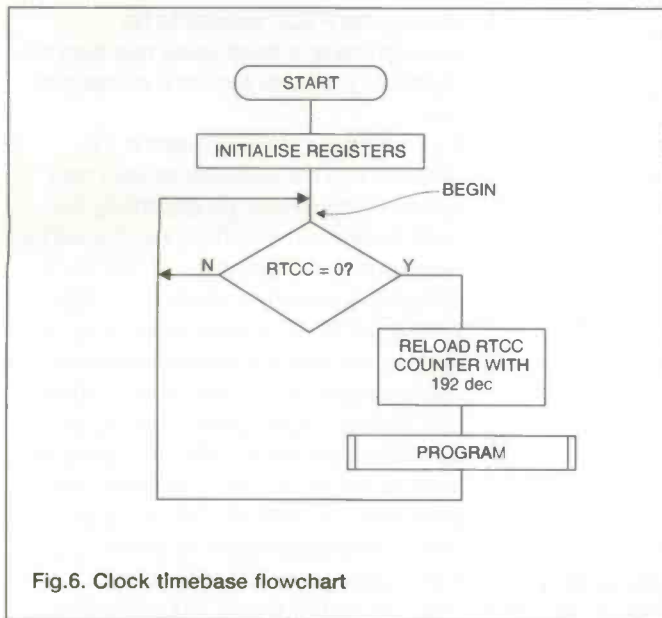
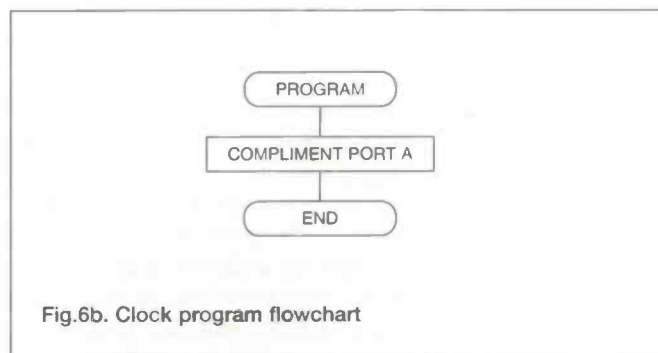

Fig.6. Clock timebase flowchart
Fig.6b. Clock program flowchart
A basic flowchart can now be drawn for this part of the programme and this is shown in Fig 6. Starting at the point marked BEGIN, the RTCC counter is checked to determine if it has reached zero. If it has not (N), it goes back to BEGIN and checks again. Eventually (once every 10mS) the test will be successful and the programme will take the other branch, reloading the RTCC counter with 224 decimal and executing the part of the programme marked PROGRAM. This will eventually consist of the various counting operations, display driving, keyboard reading etc but, for the purposes of testing this part of the programme, it simply complements port A and then goes back to the beginning as shown in fig 6b.
interpret it correctly and convert it into object code (the binary 1s and 0s) required to programme the device. This can now be explained in detail and compared to the flowchart of FIG 6. The INTLSE routine starts by setting up the I/O ports which, as mentioned, are all inputs at switch on. This is done by first loading the W register with a binary number (putting 0s in the bits which are to be programmed as outputs) using the "movlw" instruction. This moves the literal number (specified as 00h in this instance which is of course 0000 0000 in binary) into the W register and this is transferred to the TRISA register using the "tris PORTA" instruction to make port A an output. Note that in the case of port A, only the lower four bits are used since the port is only four bits wide, so that the hex number could just as well have been X0h (where X is any valid hex digit). This does illustrate an important point as far as the Microchip assembler is concerned however and it is that all hex numbers must start with a numeral so that F0h, A5h, C3h etc. would not be acceptable and would generate an error and so would have to be written as 0F0h, 0A5h or 0C3h while numbers such as 9Fh or 5Bh would be interpreted correctly. If the port A were to remain as an input, then of course, nothing would need to be done while if a mixture of inputs and outputs were required on a port, then the literal loaded into W would have a number with 0s corresponding to outputs and 1s corresponding to inputs in it. These I/O lines may change during the course of a programme as some subroutines may require certain lines which were outputs to function as inputs or vice-versa so the "tris" instructions may be used again at the beginning of some subroutines. Even if none of the lines are required to change, it is often a good idea to redefine input and output ports at intervals during the execution of a programme because in noisy environments, the TRIS registers could become corrupted with disastrous results as far as the programme is concerned.